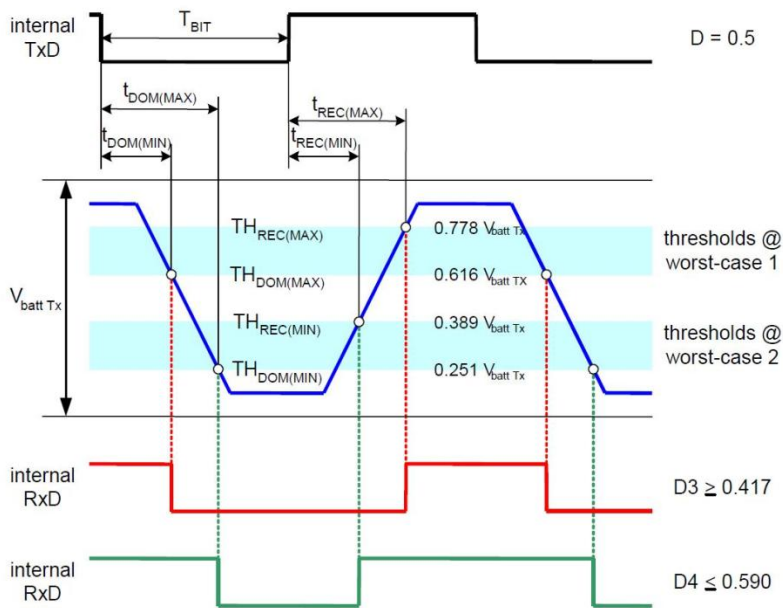

Figure 4 – LIN timing diagram (reference SAE J2602-1 specification)
- [4] See Figure 4 – Timing diagram in accordance to SAE J2602
In accordance to Figure 4 these parameters are calculated in the following way: